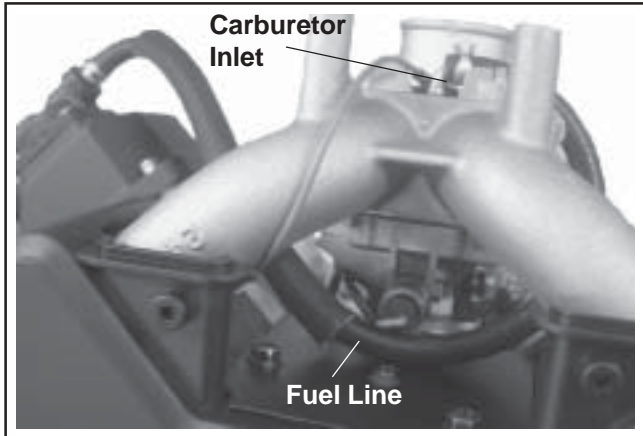

Figure 11-96. Breather Hose and Fuel Line Details.
1. Connect the breather hose to breather cover and fitting on adapter elbow. Route the fuel line adjacent to fuel solenoid, and secure to the carburetor inlet with a clamp. See Figure 11-96.